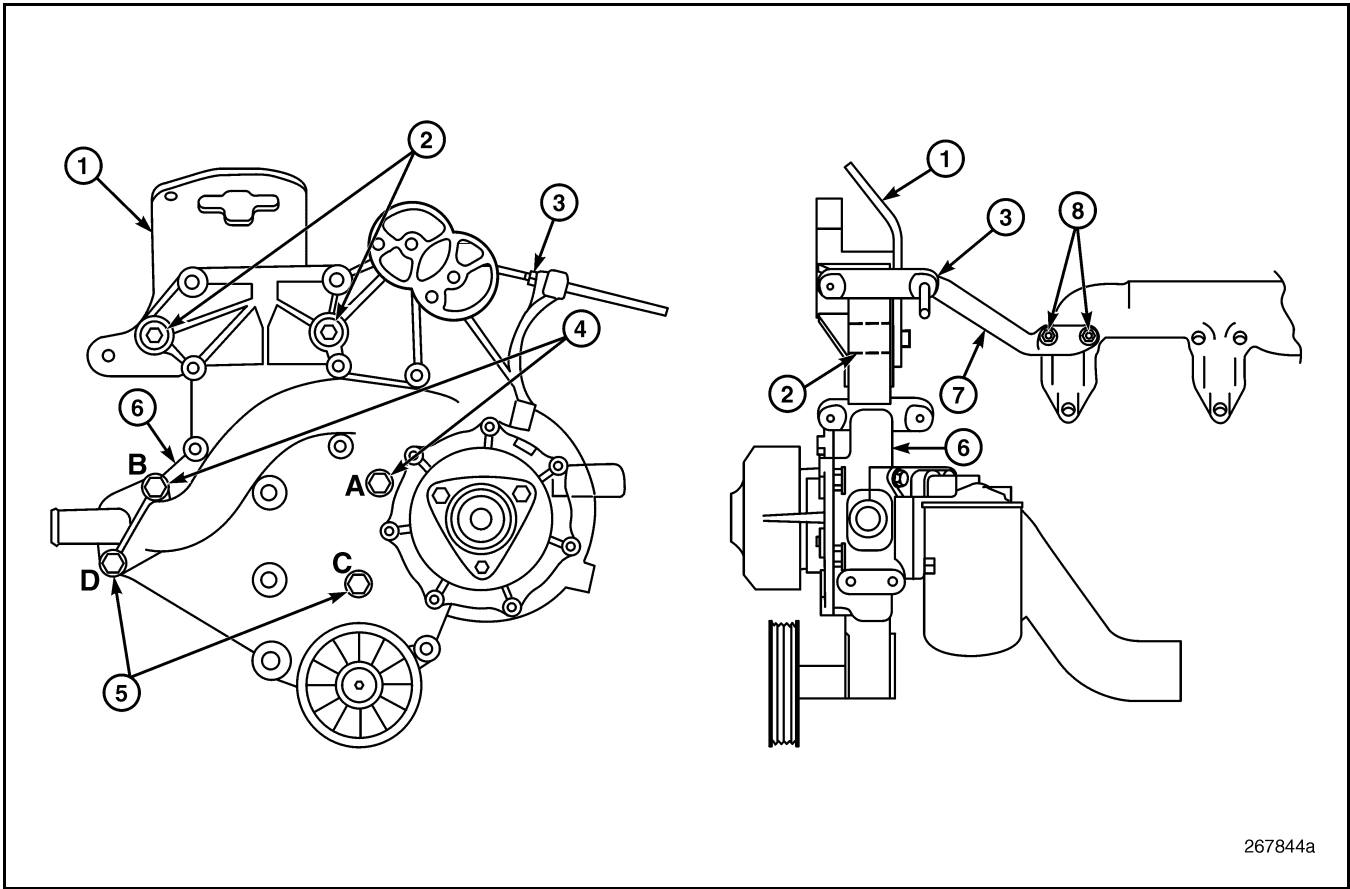

Figure 148 — Water Pump Assembly
- 7. Remove the water pump stiffening bracket by first removing the two M8 flanged nuts from the studs at the forward position of the coolant manifold. Then remove the M8 flanged nut from the backside of the A/C compressor upper mounting stud to release the water pump stiffening bracket. Refer to Figure 148.